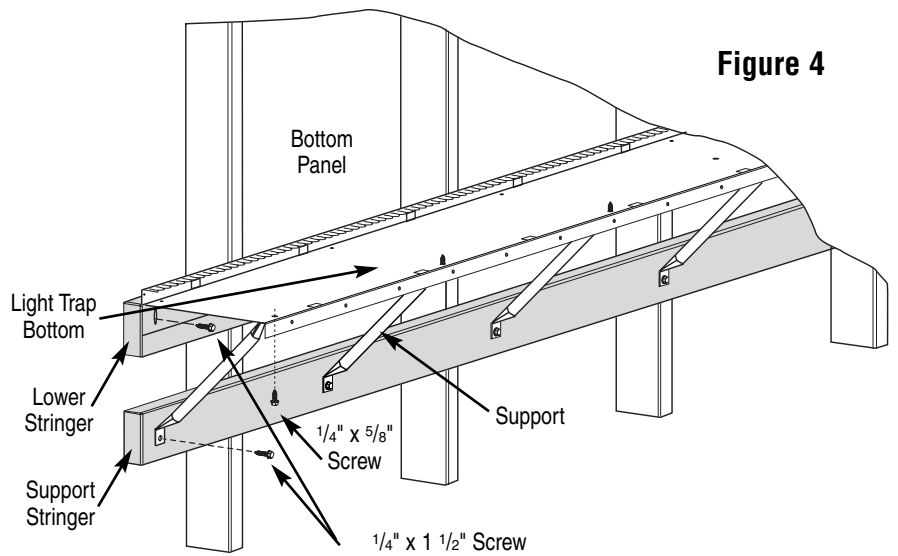

Figure 4
3. Attach one end of the **supports** to the Light Trap Bottom as shown in Figure 4 and 4a.